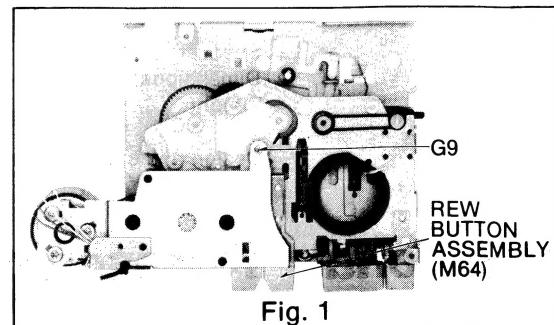

Fig. 1
- When checking operation after removing the mechanism unit from the bottom case, the REW button (M64) should come off easily. Tighten it temporarily with a screw G9 (used to stop the bottom case) as shown in Fig. 1 and then check the operation.
- Remove three black screws (A) first, then remove the lower plate assembly (M66) and switch angle (M9). Remove them while holding down the REW button assembly (M64) to prevent the FF/REW button spring (M21) from popping out. (Refer to Fig. 1, 2 and 3.)